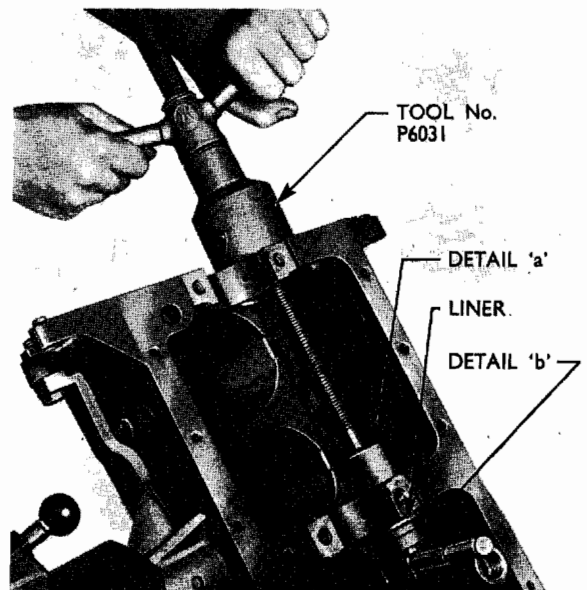

Fig. 16
1. **Fit new camshaft bearing liners** (using Tool No. P.6031 with adaptor set P.6031-3), shown in Fig. 16, if those at present fitted require replacement. Ensure that the oil holes in the liners and cylinder block are correctly aligned before fitting the liners.